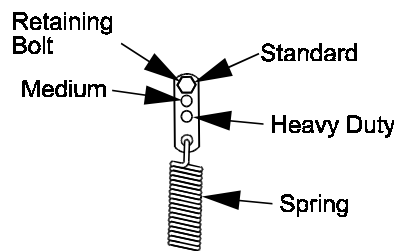

FIG. 17
- b) For a heavier drive setting, relocate the spring anchor link to either the “medium” or “heavy duty” positions as shown in Figure 17. The spring anchor links are attached to the upper rear corner of the hydro drive shields on the left and right hand sides of the machine.